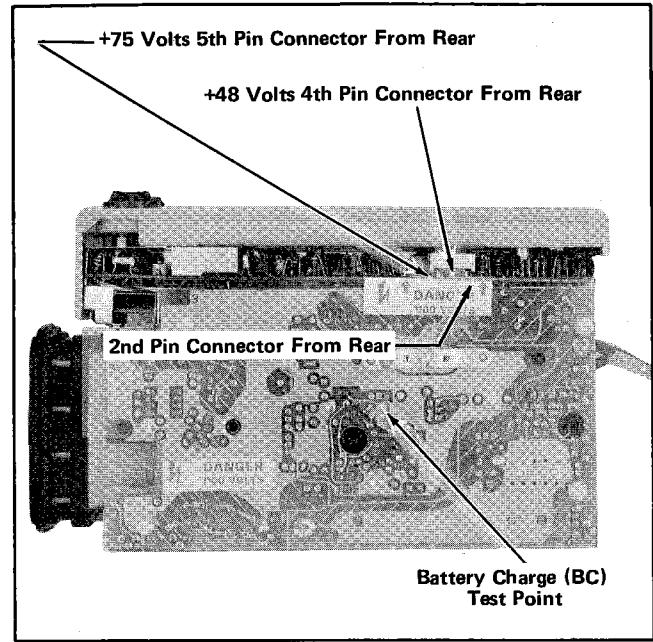

Fig. 5-2. Location of the +75 volt, +48 volt and the battery charger test points.
- a. Connect the common lead of the digital voltmeter to the second pin connector on the power supply board. Connect the other lead of the digital voltmeter to the BC test point. See Fig. 5-2.